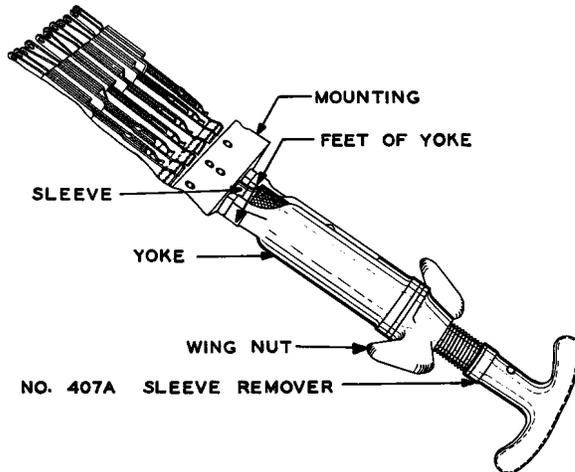

Fig. 4 – Method of Extracting Sleeve With 407A Sleeve Remover
3.07 Holding the yoke portion of the 407A sleeve remover so that the feet of the yoke are in line with the jack mounting, turn the wing nut in a clockwise direction until the feet of the yoke come into contact with the face of the jack mounting as shown in Fig. 4. If the sleeve is being replaced on a jack which is close to the stile casing of the switchboard, it may be